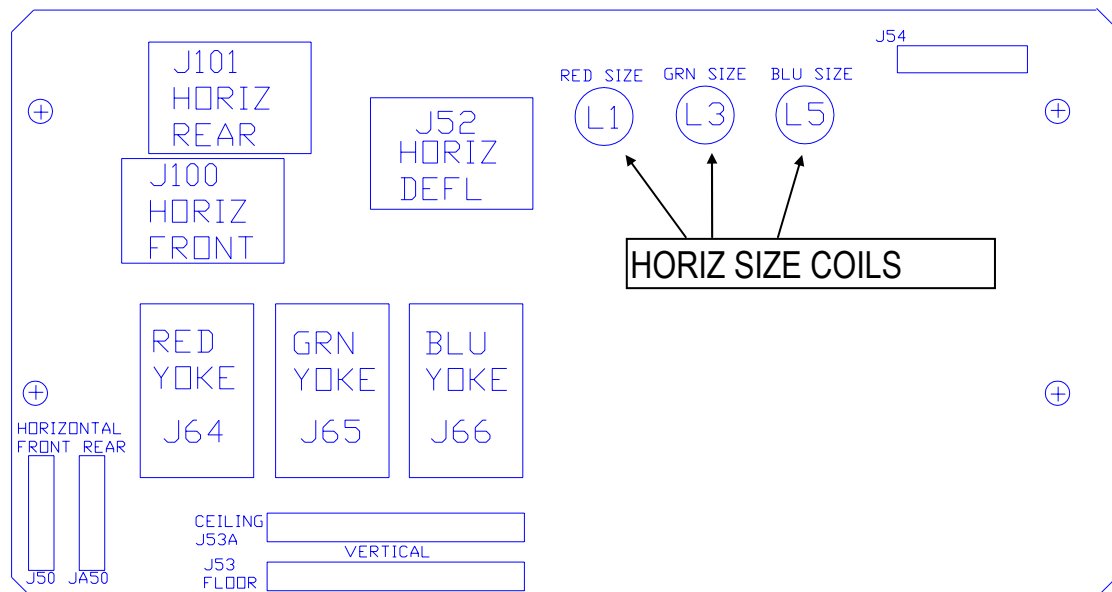

Figure 3-7. Scan Reversal Board.
The Horizontal Scan Reversal Jumper reverses the image projection for front or rear projection. Figure 3-7 illustrates the jumpers' location on the Scan Reversal Board, and the proper location for front and rear projection.
3. Verify that the jumper is plugged into JA50 and J101 for rear projection or J50 and J100 for front projection (*See Figure 3-7*). Change jumper if necessary.
The Ceiling/Floor jumpers invert the image vertically for use in situations using mirrors or ceiling projections. Figure 3-7 illustrates the location of the jumpers on the Scan Reversal Board and indicates the proper location for ceiling or floor projection. The Model 200 Projector is shipped in the normal vertical projection position with the jumper plug inserted into J53. For an inverted vertical setup this jumper plug must be inserted into J53A. (*Refer to Figure 3-7*).
4. Verify that the vertical jumper is inserted in the correct jacks for appropriate application, (*see Figure 3-7*). Change jumpers if necessary.
To adjust the horizontal size coils (see *Figure 3-7*):